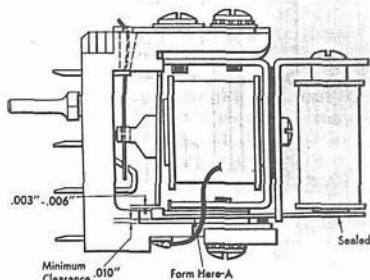

Figure 27. Adjustment 8
8. Figure 27. With the latch magnet energized, the latch armature should clear the relay